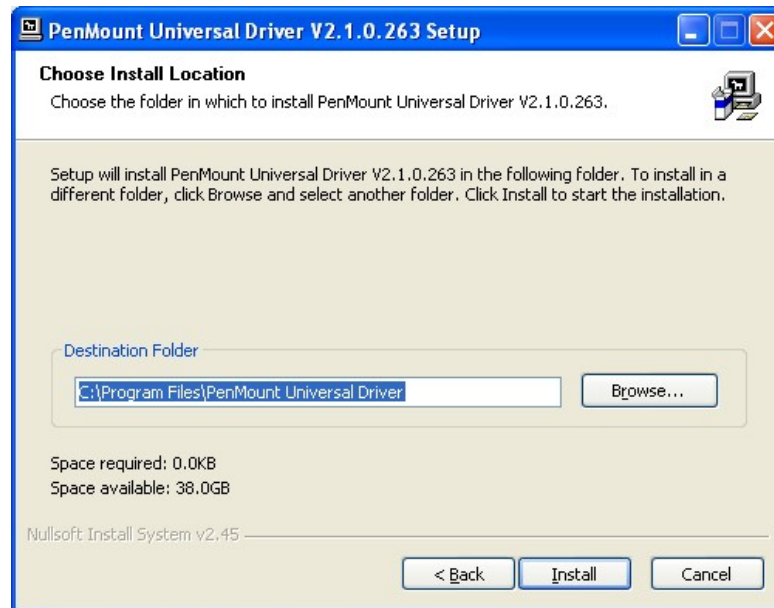

Figure 7-19: Touch Screen Driver Choose Install Location
Step 8: Browse for an install location or use the one suggested (**Figure 7-19**).